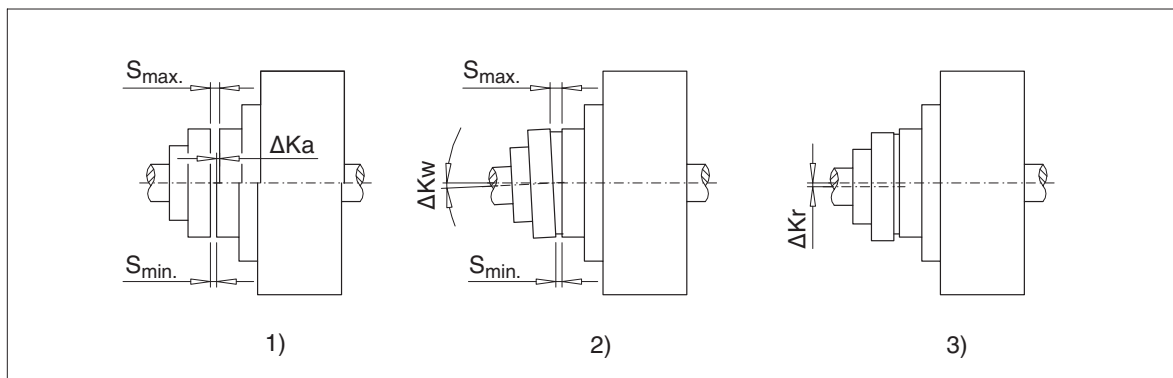

Fig. 10: Possible misalignments
Axial misalignment ΔK_a (Fig. 10) of the coupling parts relative to one another is permissible within the "permissible deviation" for dimension "S" (see order-related title page).
The angular misalignment ΔK_w (Fig. 10) can usefully be measured as the difference in the gap dimension ($\Delta S = S_{\max.} - S_{\min.}$). For the permissible values for the difference in the gap dimension, refer to item 6.5.4.
For the permissible radial misalignment $\Delta K_{r \text{ perm.}}$ (Fig. 10) – depending on the operating speed –, refer to item 6.5.4.